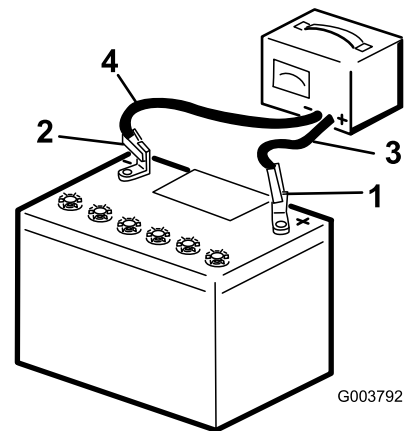

Figure 52
2. Charge the battery for 4 to 8 hours at a rate of 3 to 4 A (Figure 52). Do not overcharge the battery.
3. When the battery is fully charged, unplug the charger from the electrical outlet, then disconnect the charger leads from the battery posts (Figure 52).